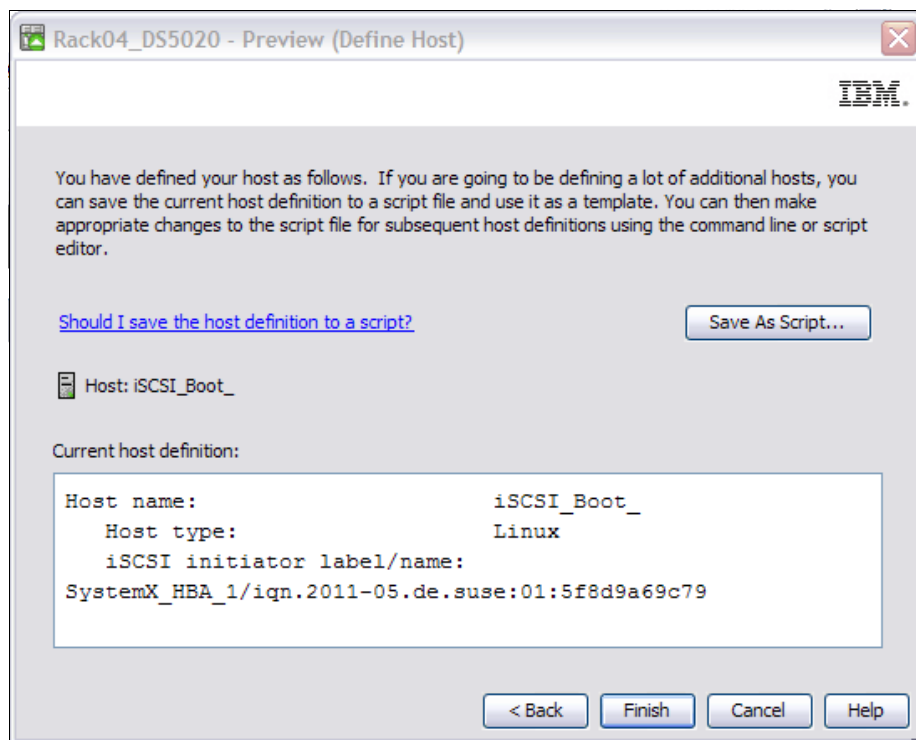

Figure 6-31 Preview after host definition process
- f. Finally, the wizard gives a preview of your newly created host's definition, as shown in Figure 6-31. Click **Finish** to complete the process.